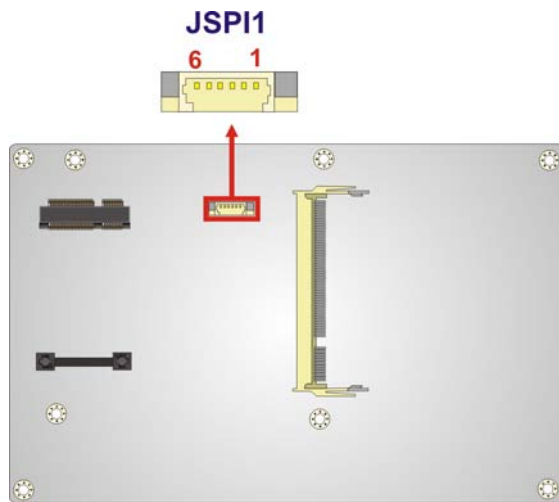

Figure 3-5: BIOS Update Connector Location
- CN Location: See **Figure 3-5**